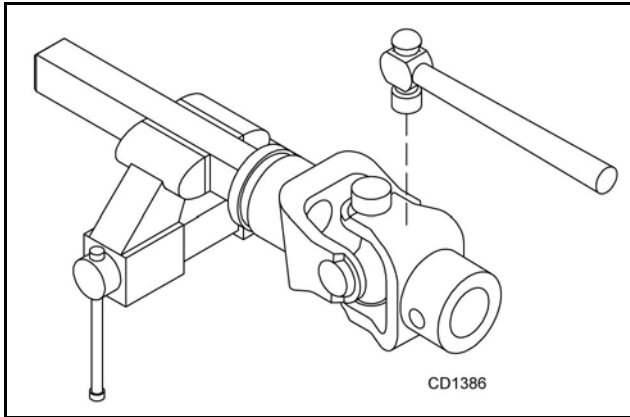

Figure 20. Remove Bearing Cups
2. With snap rings removed, support drive in vise, hold yoke in hand and tap on yoke to drive cup up out of yoke. See Figure 20.